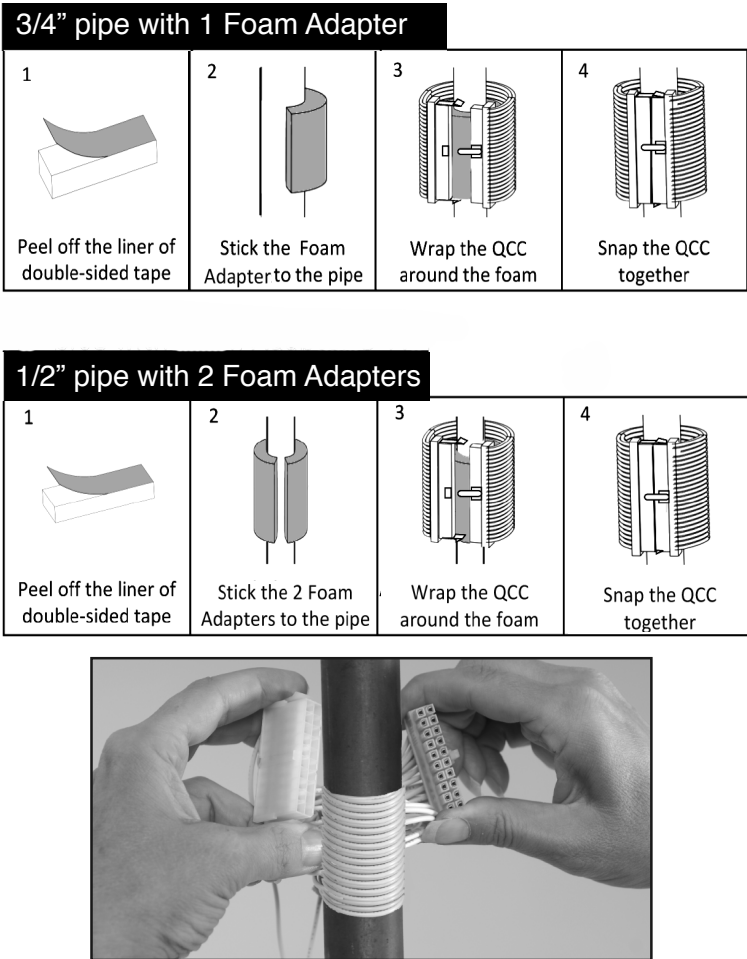

Fig. 6 – Applying the QCC & Foam Adapter For Various Pipe Diameter
- Peel the liner off the double-sided tape and adhere the Foam Adapter to the pipe where the coil will be mounted. The Foam Adapter should adhere to one side of the pipe (see Fig. 6).
- Wrap the Quick Connect Coil around the Foam Adapter twice and snap together (see Fig. 6).